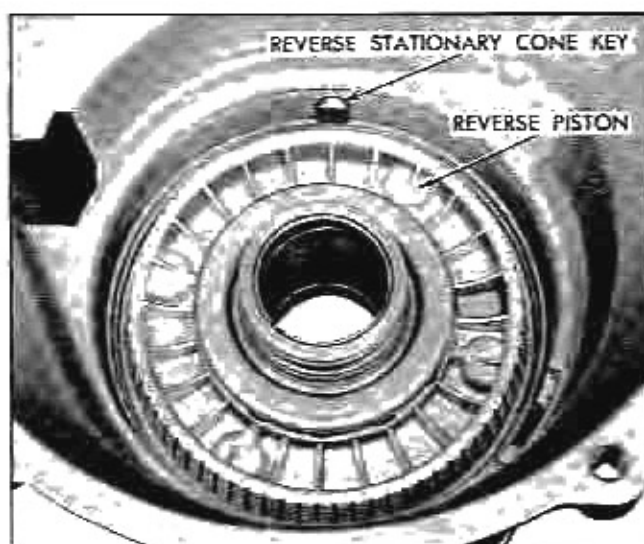

Fig. 108 Reverse Piston in Case
7. Install reverse stationary cone key into case—rounded side toward front of case (Fig. 108).